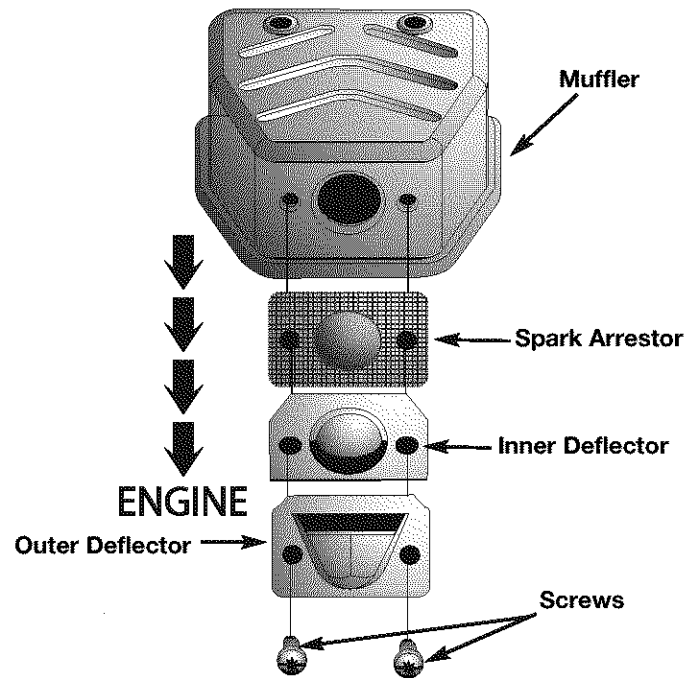

Fig. 36
2. Locate the muffler, and find the two (2) screws on the bottom of the muffler (Fig. 36). These two screws hold the exhaust deflector assembly and the spark arrester screen to the bottom of the muffler. Remove the two (2) screws using an appropriate screwdriver.
6. Place the inner deflector on top of the spark arrester as shown in Fig. 36. The beveled edges of the inner deflector must be away from the engine-side of the muffler.
7. Place the outer deflector on top of the inner deflector as shown in Fig. 36. The beveled edges of the outer deflector must line up with the beveled edges of the inner deflector. Verify that the exhaust will be directed AWAY from the engine.